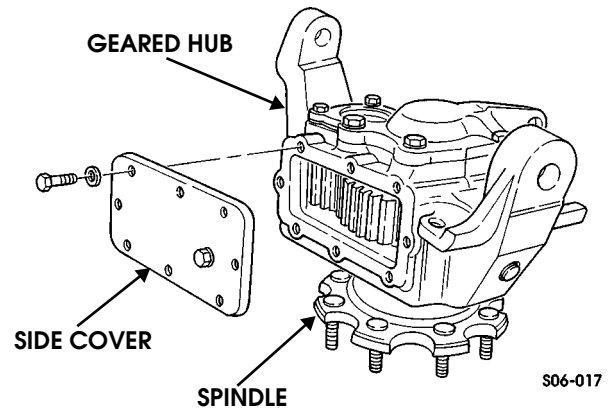

Figure 9-21: Geared Hub Disassembly
2. Position geared hub with spindle supporting geared hub (Figure 9-21).